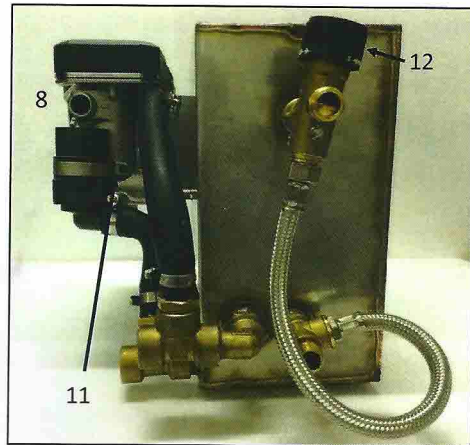

Fig 6 – Fuel Connection
The mixing valve (Fig 6) (12) is located at the hot water outlet on the tank. The user will achieve the desired water temperature by turning the knob on top of the valve (Fig 23) in the desired direction (clockwise or anticlockwise) in order to obtain water temperature between 38°C-55°C with a tolerance of  $\pm 7^{\circ}\text{C}$ .